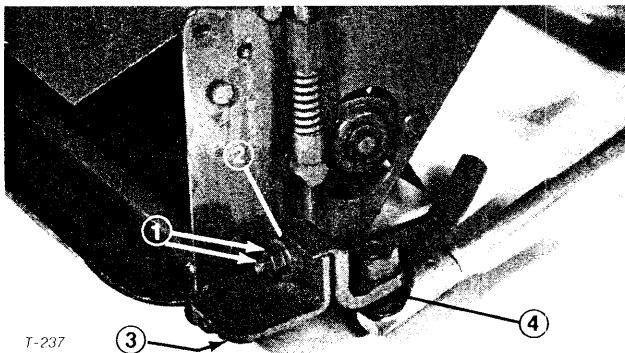

Figure 36
4. Insert a shim between the hanger and support on each side of the cutting unit (Fig. 36).